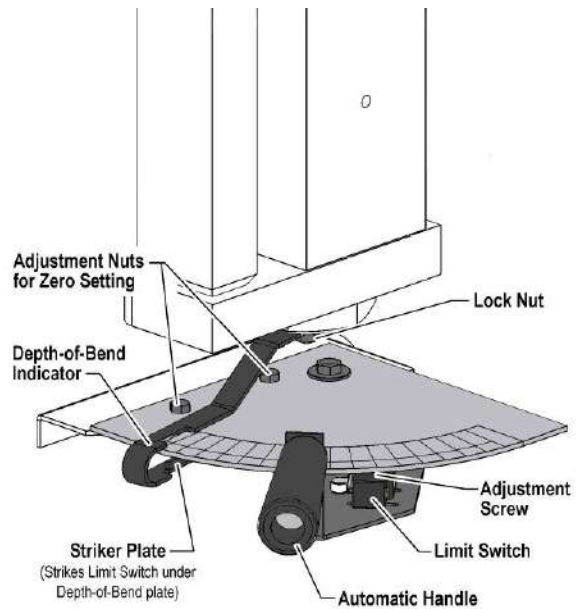

Figure 12. Depth-of-Bend Adjustment
1. Check the depth-of-bend indicator which should read exactly 90°. See Figure 12.
2. Set automatic handle to 90°. See Figure 12.